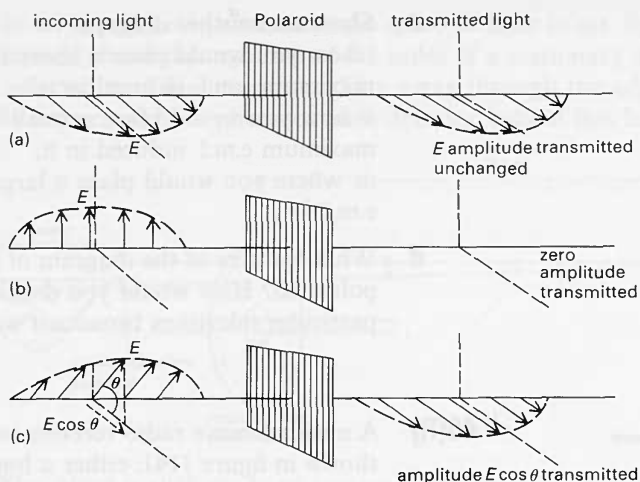

Figure J143
46(L) Figure J143 (page 246) shows how much light 'ideal' Polaroid transmits. In figure J143(a), the electric field of the incoming light is at right angles to long polymer chains, to which iodine atoms are attached. The presence of the iodine allows electrons to migrate along the chains, so that the chains behave like a very fine grid of conducting wires. With the electric field perpendicular to the grid, all the incident light is transmitted.
In figure J143(b), the electric field is parallel to the grid, and no light is transmitted.
In figure J143(c), the electric field makes an angle θ with the direction it had in figure J143(a). A component $E \cos \theta$ lies along that original direction, and is transmitted. (A component $E \sin \theta$ lies along the direction in figure J143(b), and is not transmitted.)
The amplitude of the transmitted electric field oscillation in figure J143(c) is $E \cos \theta$, if the amplitude of the incoming wave is E . The brightness, or intensity, of the transmitted light is proportional to the square of the amplitude, and so to $\cos^2 \theta$.